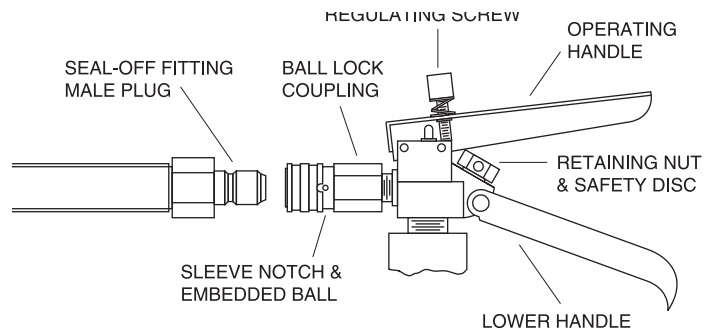

Figure 3
The 1105A operating valve accepts seal-off assemblies from 1/2 to 6 inch capacity. See Figure 3.
1. Connect the seal-off assembly to the operating valve. (Refer to Figure 3).